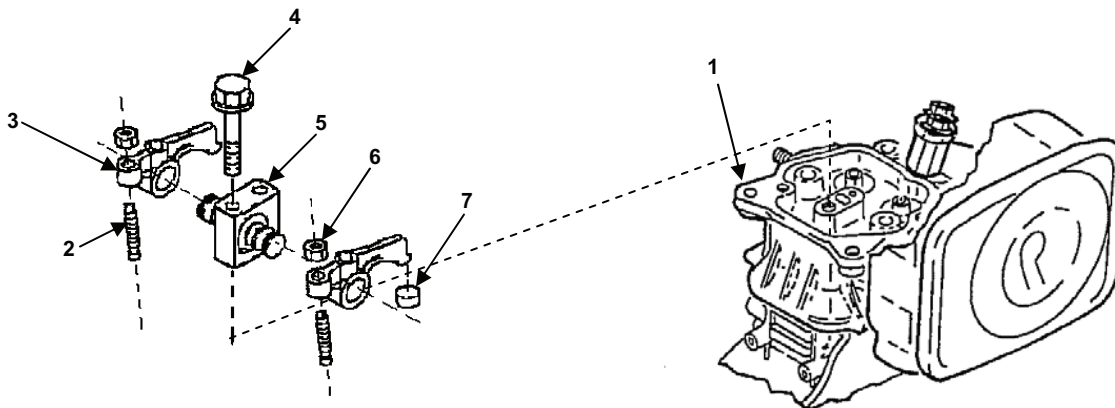

Figure 1. Rocker Arm Assembly Removal.
1. Remove rocker arm support (Figure 1, item 5) from cylinder head (Figure 1, item 1) by removing two screws (Figure 1, item 4).
2. Remove lock nut (Figure 1, item 6) from the adjustment screw (Figure 1, item 2).
3. Remove adjustment screw (Figure 1, item 2) only if necessary.
4. Remove rocker arm (Figure 1, item 3) and wear cap (Figure 1, item 7).